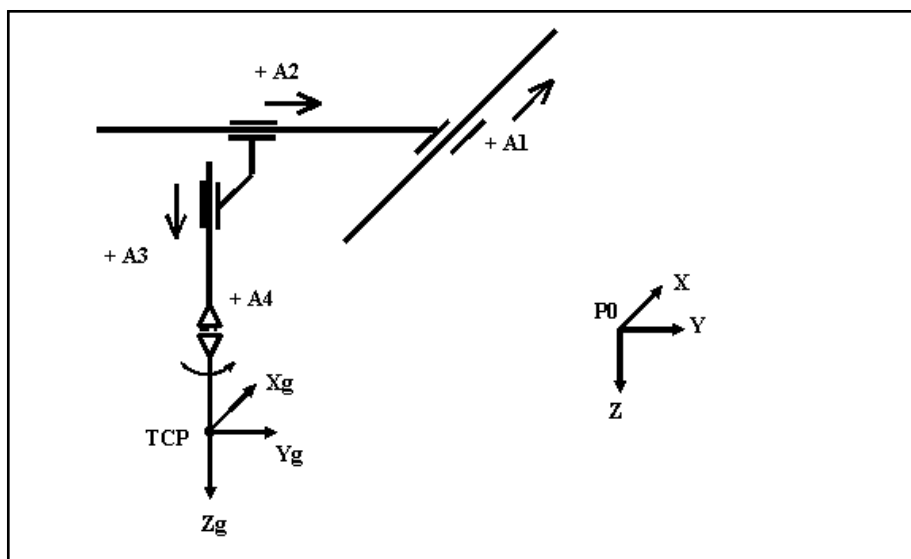

Fig. 18-1: Robot type 0, Cartesian robot, 3D perspective
- fig. 18-1 "Robot type 0, Cartesian robot, 3D perspective " on page 256 and